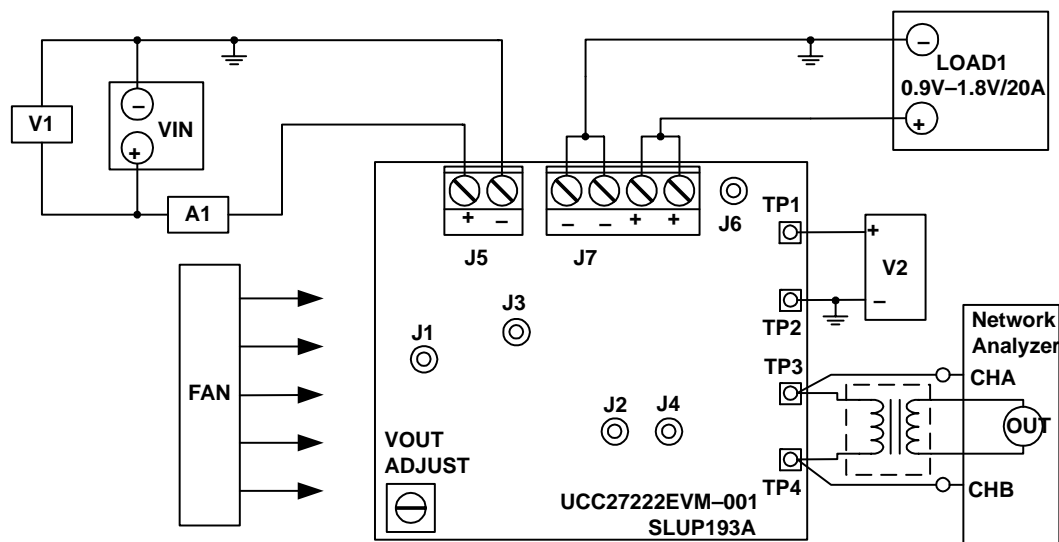
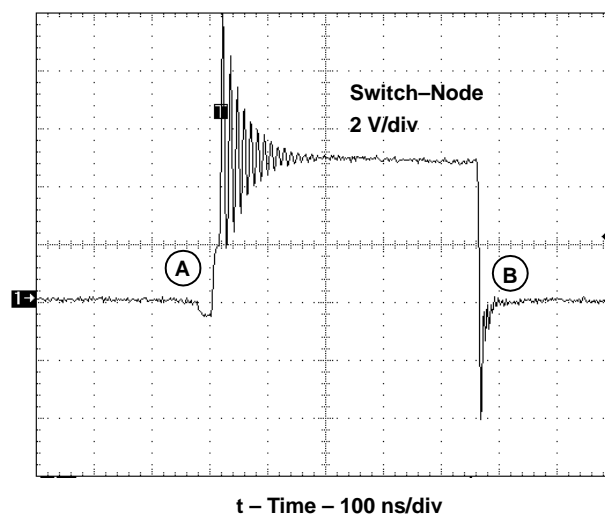
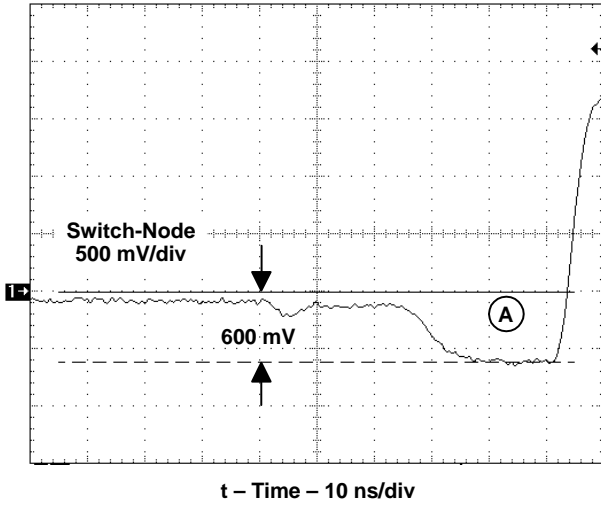
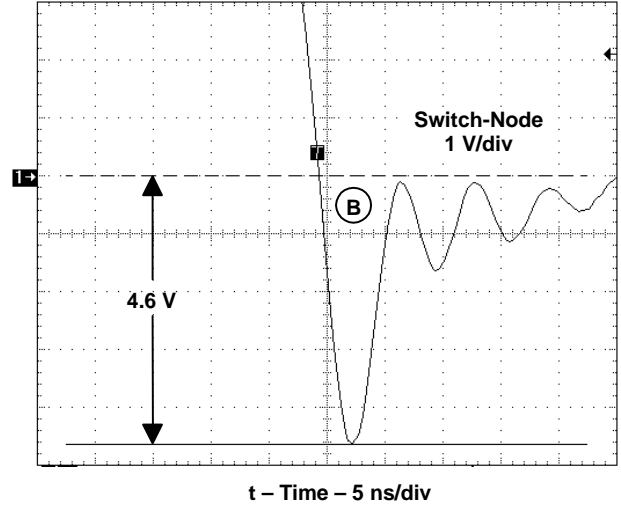

Figure 3. Recommended EVM Test Configuration
Figure 6. Switch-Node Voltage
Figure 7. Close Up: Switch-Node A
Figure 8. Close Up: Switch-Node B
Shown in Figure 3 is the basic test set up recommended to evaluate the UCC27222EVM-001. Please note that although the return for J5 is the same as the J7 return, the VIN and LOAD1 connections should remain separate as shown below.
The input voltage shall be a variable DC source capable of supplying between 0 Vdc and 6 Vdc at no less than 10 Adc, and connected to J5 as shown in figure 3. For fault protection to the EVM, good common practice is to limit the source current to no more than $9 A_{DC}$ for a 5-V input. A dc ammeter, A1 should also be inserted between VIN and J5 as shown in Figure 2.
A network analyzer can be connected directly to TP3 and TP4 as shown in Figure 3. The UCC27222EVM-001 provides a $51.1\text{-}\Omega$ resistor (R14) between the output and the voltage feedback to allow easy non-invasive measurement of the control to output loop response.
2. Prior to connecting the DC input source, V_{IN} , it is advisable to limit the source current from V_{IN} to 9-A maximum. Connect the ammeter A1 (0-A to 10-A range) between V_{IN} and J5 as shown in Figure 3. Make sure V_{IN} is initially set to 0 V.
3. Connect LOAD1 to J7 as shown in Figure 3. Set LOAD1 to constant current mode to sink 0 A_{DC} before V_{IN} is applied.
4. Connect the voltmeter, V2 to TP1 and TP2 as shown in Figure 3.
J4 of figure 3 allows convenient probing of the switch-node voltage, shown in Figure 6. The ringing shown on the switch-node voltage waveform is a result of component package inductance and parasitic inductance between the UCC27222 driver device and the high-speed switching MOSFETs, and is not a characteristic of Predictive Gate Drive™ technology. Predictive Gate Drive™ technology minimizes body-diode conduction as highlighted at points A and B of Figure 6. Figure 7 and Figure 8 show close up views of points A and B shown in Figure 6. Figure 8 shows some inductive ringing below the ground reference; however, it is not clamped by the body-diode of Q3.